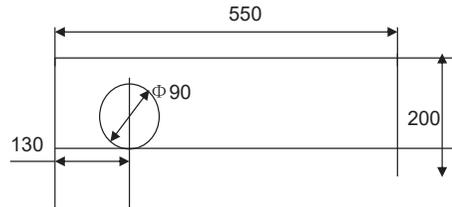

fig. 1
3.2.4 After unpacking, place the hardness tester horizontally on a stable workbench, and its levelness shall not exceed 1mm/m. At the same time, open a hole in the appropriate position of the workbench (Figure 1), so that the lifting screw can work normally. It is recommended that the height of the workbench is about 500mm.